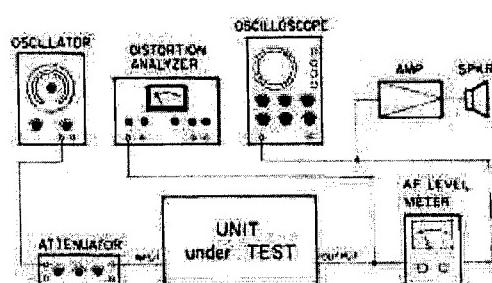

Fig. 9-7-16: Distortion Measurement Set-Up
1. Connect test equipment as shown in Fig. 9-7-16.